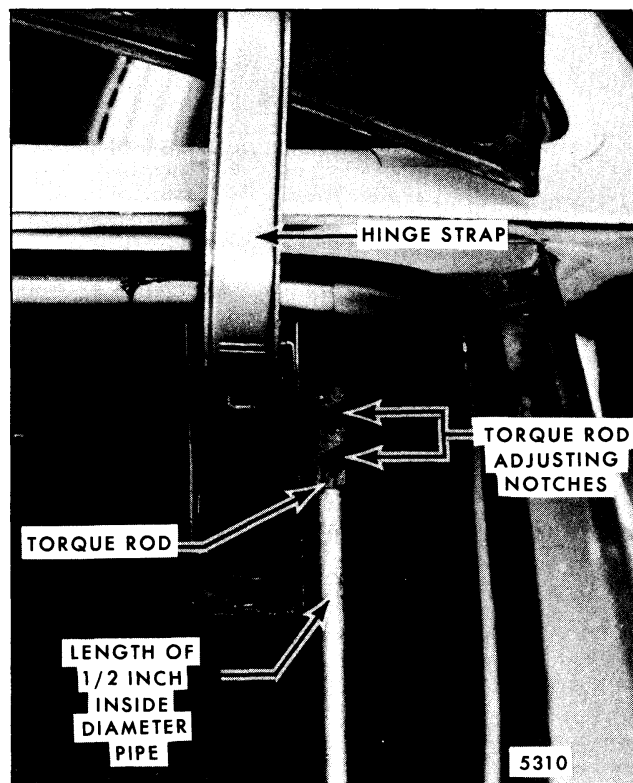

Fig. 7-25-Rear Compartment Torque Rod Adjustment - "A" Styles Shown, "B-C" and Buick "E" Style Similar
- f. On "A, B, C" and Buick "E" styles, except Cadillac "C" styles, use a length of 1/2" inside diameter heavy wall pipe (refer to Fig. 7-25).